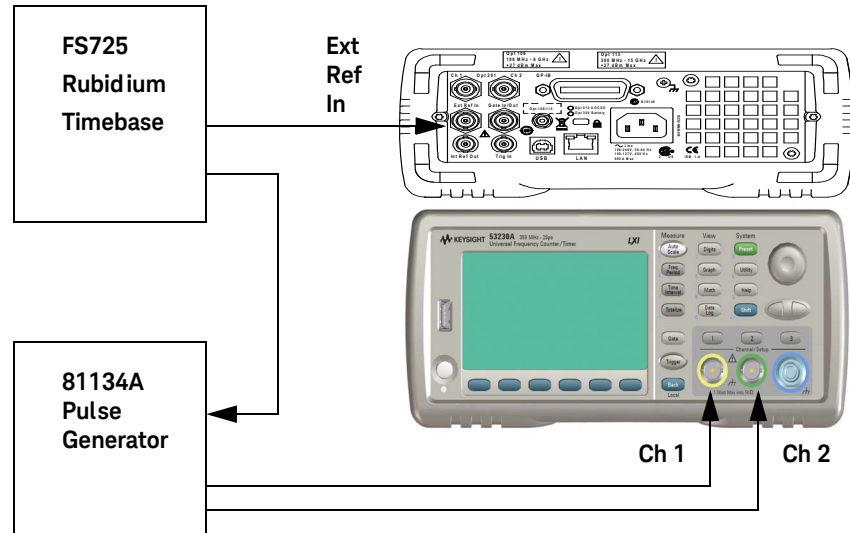

Figure 1-7 Time interval (channel 1 to 2) test setup
- 1 Connect the equipment as shown in Figure 1-7.